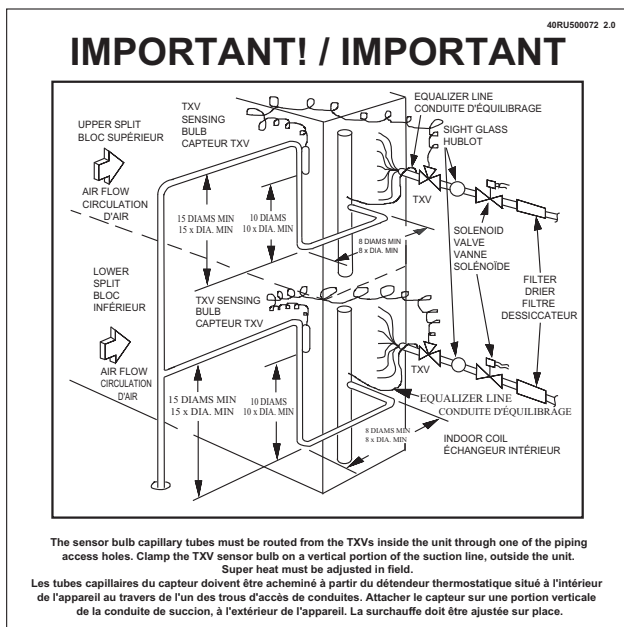

Fig. 23 — TXV Bulb Location Label
- Is TXV bulb located on suction tube per Fig. 23?